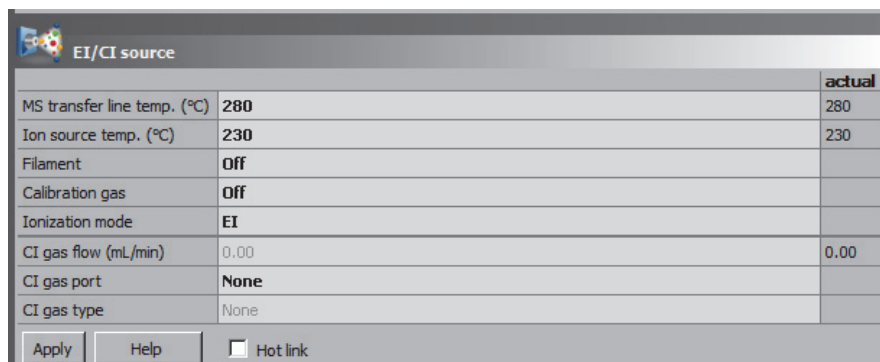

Figure 4-3. EI/CI source window
Use the EI/CI source window to specify electrical ionization (EI) or chemical ionization (CI) source parameters. The Q Exactive GC mass spectrometer updates the EI/CI source parameters only after you click **Apply** or with the Hot link check box being selected. See Figure 4-3.